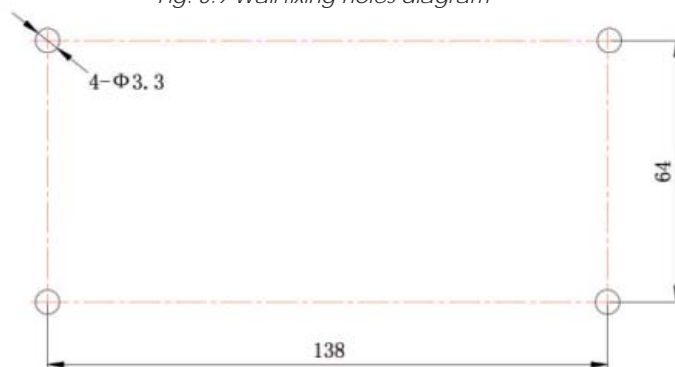

Fig. 3.10 Installation holes of the electrical box rear cover
- If the centralised controller is installed using the supplied metal box, make 4 holes for installation, according to fig. 3.10.
4. In phase ①, extract the power and communication cables and pass them separately from the wiring hole of the electrical box's rear cover. Do not pass the cables from the same hole.
5. In phase ②, align the rear cover of the electrical box with the mounting holes on the wall with the ST4,2x16 FA screw.
6. In phase ③, extract the cables that connect the touch screen and the rear cover of the controller. Place the touch screen in a safe place.
7. In phase ④, connect the communication cables to terminals G1, G2 and connect the neutral cable and the voltage cable to terminal N, L; connect the earth cables to position ⑤ on the rear cover of the electrical box. Secure them with the M4x12 screw.
8. In phase ⑤, place the rear cover of the controller on the rear cover of the electrical box with screw ST4,2x9,5 TC.
9. In phase ⑥, connect the cables between the touch screen and the rear cover of the controller.